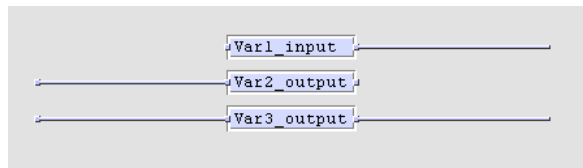

Figure 58: Direction of global variables
- The direction of the variable is determined based on the graphical representation, shown in Figure 58.